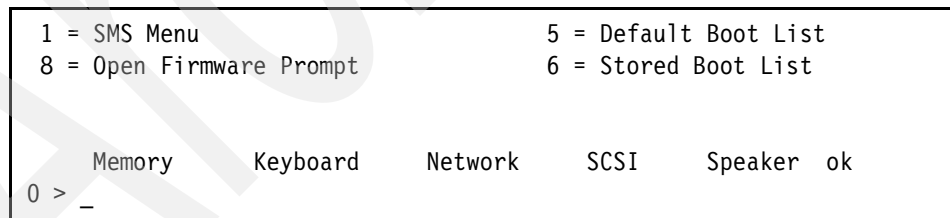

Figure 6-19 Open Firmware prompt
1. Type 8 during the LPAR boot process to go to the Open Firmware prompt, as shown in Figure 6-19.